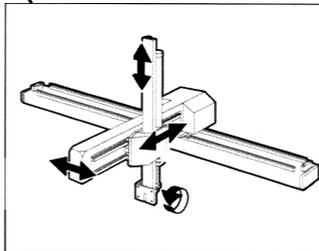

Fig.1 CARTESIAN
- 1. Cartesian Robot** - also known as beam or gantry. Always with linear axes, horizontal, vertical and de-mould. Usually specified with 1 or more rotational axis. Mounting of the Robot is normally platen or floor fixing. Access to the mould is normally top or side entry. Mouldings are generally deposited at the rear/front or end of the moulding machines. Fig.1, NB. Cartesian Robots can be equipped with a second vertical arm for sprue removal from 3 plate tools.